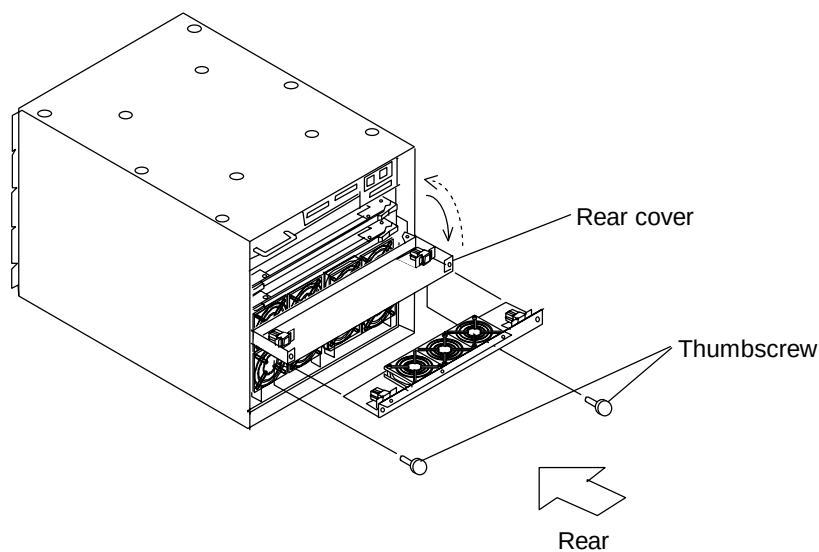

Figure 3.2.1 Opening/Closing the Rear Cover
(1) Removing the rear cover. (See Figure 3.2.1)
① Remove the 2 thumbscrews and open the rear cover.
(2) Attaching the rear cover. (See Figure 3.2.1.)
① Attach the rear cover in the reversed order as (1).